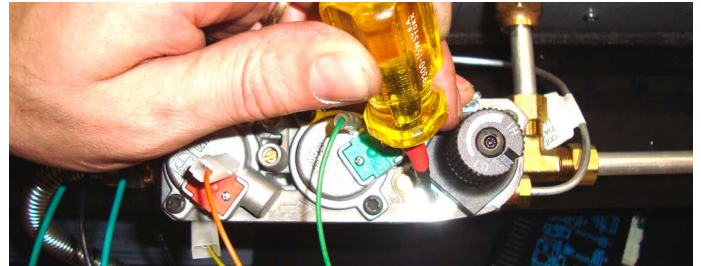

Figure 7 Replace Hi-Lo knob on valve
1. Using a Torx T20 or slotted screw driver, remove the two screws that are attached to the Hi-Low knob on the Gas Control Valve (Figure 7) and discard the screws and the knob. Remove gasket and discard.